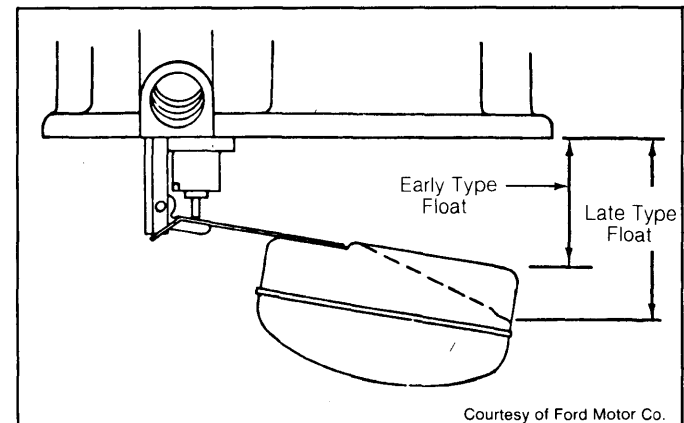

Fig. 4: Float Drop Adjustment
2) Hold air horn in upright position. Allow float to hang free. Using specified gauge, measure minimum clearance from tip of float to bottom of air horn casting. See Fig. 4.